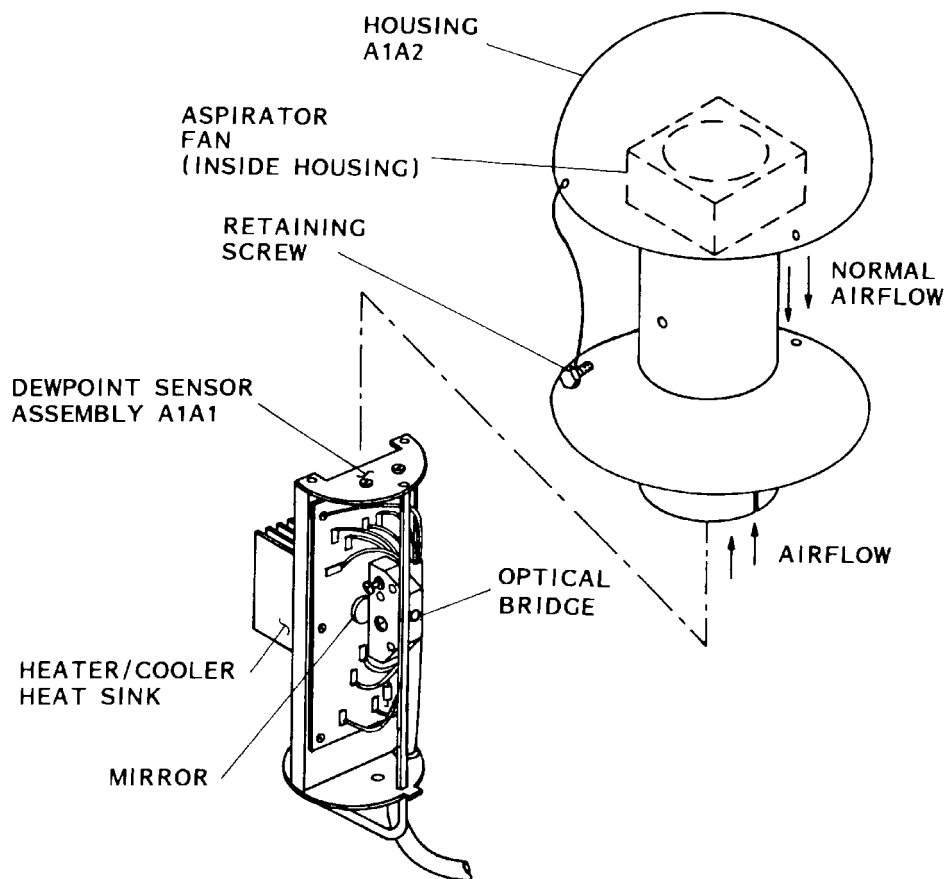

Figure 5.1.2. Aspirator Component Location
5.1.2.4 **Aspirator 2MT4A1.** The aspirator (figure 5.1.2) consists of two FRU's: Housing Assembly A1A2 (with built-in fan) and Dewpoint Sensor Assembly A1A1. The dewpoint sensor assembly consists of a sensor card (ambient and dewpoint sensing circuitry), its mounting frame, and the aspirator cable (connects to transmitter). The dewpoint sensor assembly contains additional diagnostic circuitry that monitors airflow through the aspirator and is used to detect a fan failure. This fan failure circuitry is monitored by model 1088 only.